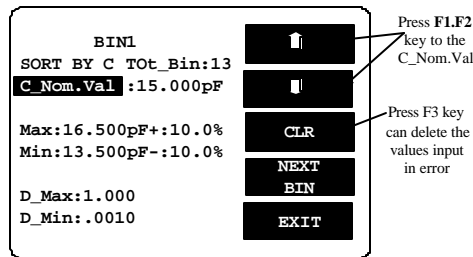

Figure 8-16
- Press \downarrow key. Please refer to Figure 8-16 below.